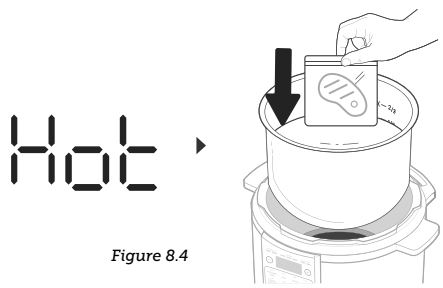

Figure 8.4
- 9. When the display says 'HOT', remove the lid and carefully submerge the food in the inner pot. [Figure 8.4]